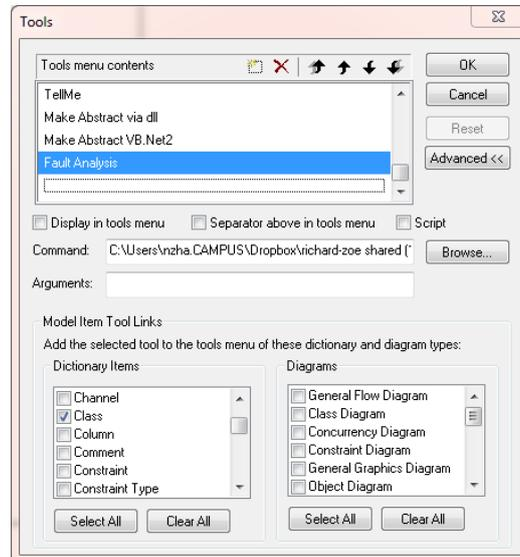

Figure 18: “New Tool” advanced options showing the model/dictionary elements on which the tool may be executed.
6. Click the “Advanced” button. This adds a menu option to use the tool on the tools menu of selected model elements. From the left hand Dictionary Items menu, select “Class”. This setup is shown in Figure 18.